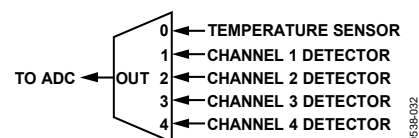

Figure 27. ADC Input Multiplexer Mapping
The multiplexer position can be programmed using the MUX_SEL bits (Register 0x04A, Bits[3:1]). The multiplexer has five valid states, from 0 to 4. Figure 27 shows the multiplexer mapping.
- Bit 1 to Bit 3: MUX_SEL (read/write). These bits are used to select the ADC input, according to Figure 27.